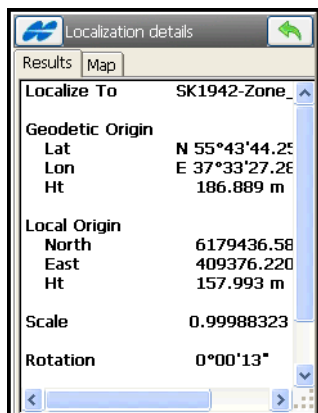

Figure 8-3. Localization Details
6. The *Localization details* screen displays (see Figure 8-3 on page 8-6). The Map tab displays the localization points marked by blue triangles.